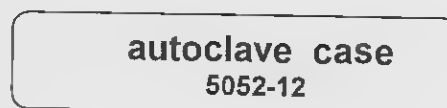

Figure 1-20. Sterilization metal plate.
(12) A metal plate (located on the lid of the sterilization case) is depicted in figure 1-20.